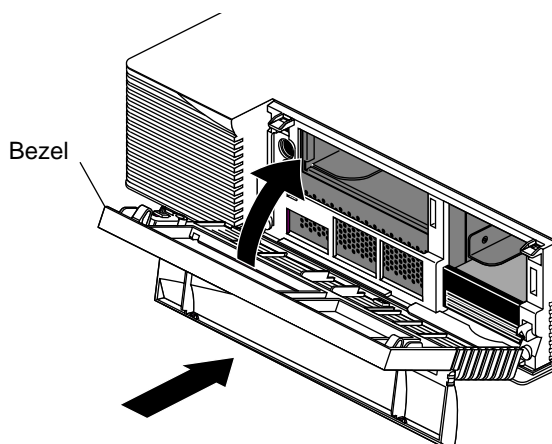

Figure 6-5 Replacing the Bezel
- Place the tabs on the bottom of the bezel in the grooves in the front of the chassis, as shown in Figure 6-5.